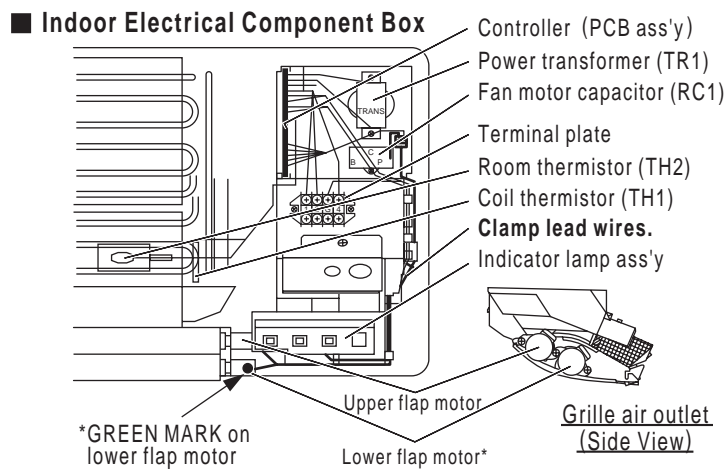

Fig. 6
3. Pull out the indoor unit controller (PCB ass'y). (Fig. 6 on next page)